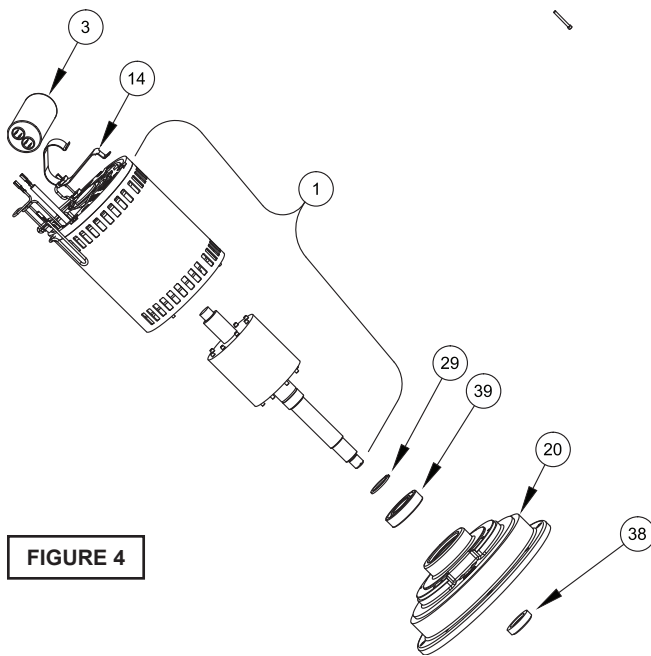
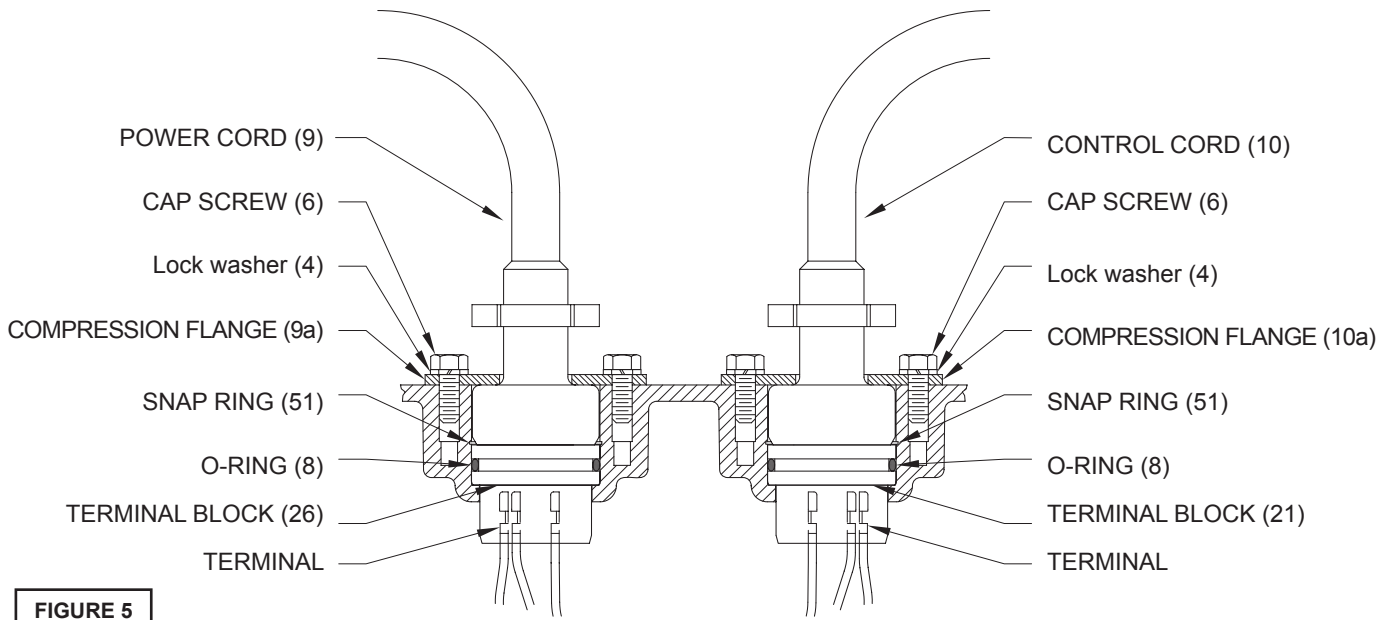

FIGURE 4
FIGURE 5
To examine or replace the motor (1), capacitor (3, 1 phase units), and bearing (39), drain oil from motor as outlined in paragraph F-1.2. Disassemble volute and impeller as outlined in paragraph F-2.1 and disassemble shaft seal as outlined in paragraph F-4.1. Position unit upright, using blocks to avoid resting unit on shaft. Unscrew cable hex bolts (6) and remove compression flange (9a) and power cord (9). Remove snap ring (51) with a flat head screwdriver. Pull the terminal block (26) out of the motor housing (2) using a T-bolt or pair of pliers and a .25-20 screw in the threads of the terminal block (26). Be sure to leave slack on the motor leads connected underneath. Use needle nose pliers to pull each female connector off of the pins on the underside of the terminal block (26) (see Figure 5). The unit voltage should be noted. Repeat cord and terminal removal procedure for any sensor cords (10). Remove socket head cap screws (42). Vertically lift motor housing from bearing bracket by lifting handle (7). Inspect square rings (36) for damage or cuts. Remove the motor bolts and lift motor stator from bearing bracket (20). Disconnect capacitor leads from capacitor (3, 1 phase units). Examine bearing (39) and replace if required. If replacement is required, remove bearing (39) from motor shaft using a wheel puller or arbor press. (see Figure 4)
Reconnect motor and control leads to the underside of the terminal block(s) (21), (26) as shown in Figures 5 and 11. Note that the pins are numbered underneath the terminal block. Place o-ring (8) into groove in terminal block and lubricate with dielectric oil. Press the terminal blocks (21) (26) into the housing so it seats completely below the snap ring groove. Place snap ring (51) into groove in cord entry bore of motor housing (2). Repeat terminal block installation for sensor cord, if equipped.